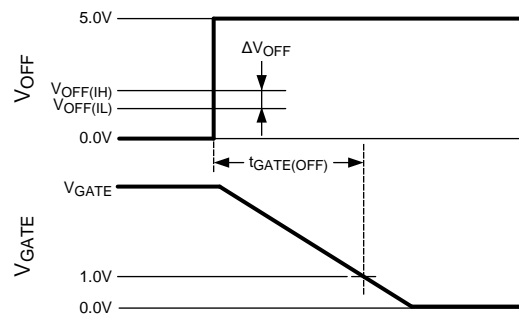

Figure 7. Gate Off Timing for  $V_{OFF}$  Transition
(2) Time from  $V_{\text{OFF}}$  voltage transition from  $0.0\text{V}$  to  $5.0\text{V}$  until GATE pin voltage falls to  $\leq 1.0\text{V}$ . See Figure 7